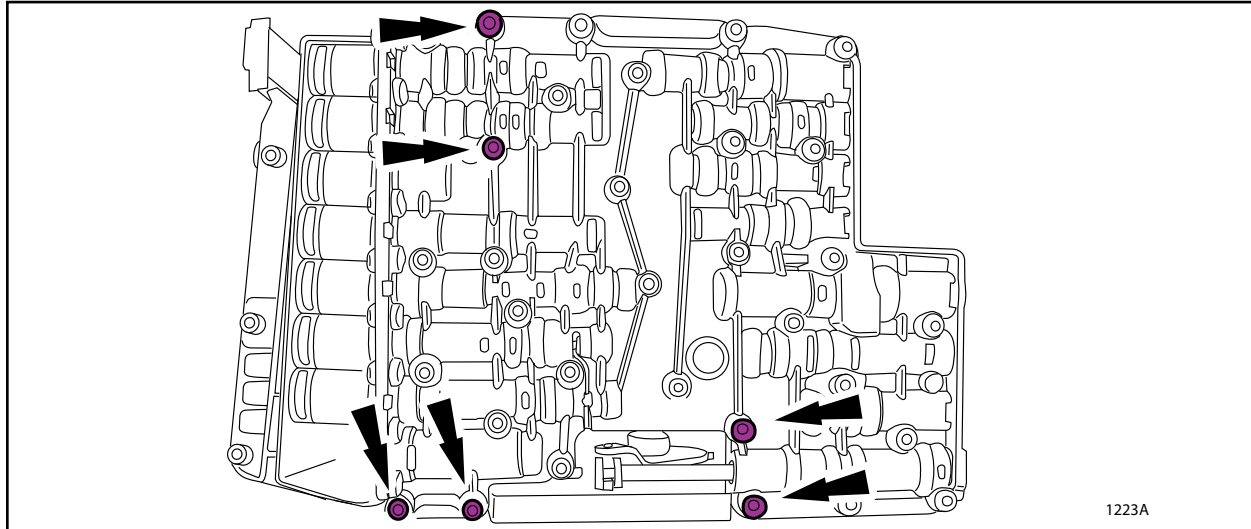

FIGURE 1
5. With the main control assembly removed from the vehicle, remove the six long bolts from the molded leadframe. See Figure 1.